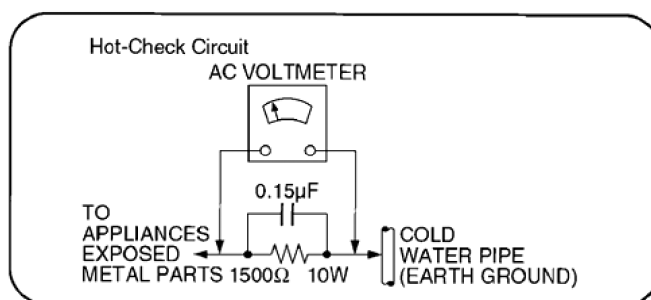

Figure 1
2. Connect a 1.5 k Ω , 10 watts resistor, in parallel with a 0.15 µF capacitor, between each exposed metallic part on the set and a good earth ground such as a water pipe, as shown in Figure 1.